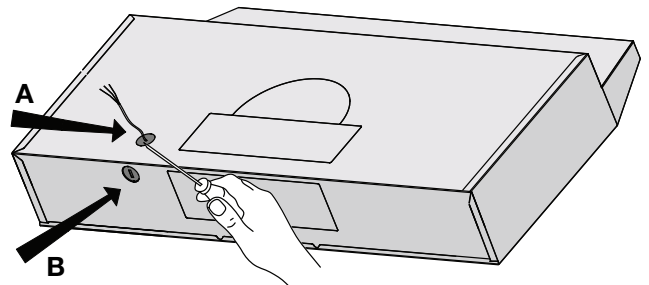

Figure 3
- Use a tool to punch the wiring hole, from the two options for holes. Please choose hole A or hole B according to wiring requirement (see Figure 3).